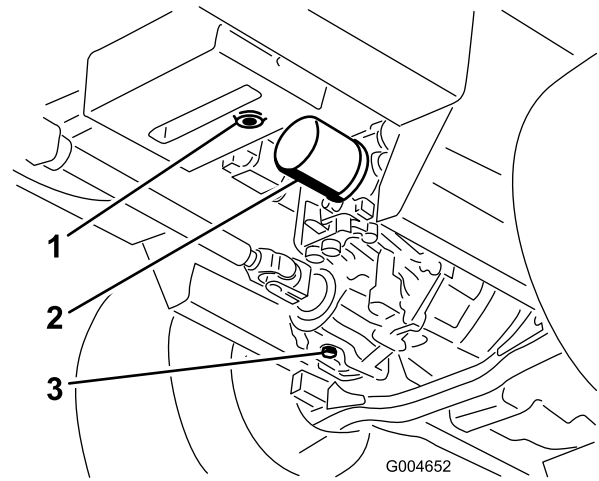

Figure 67
4. Clean the area around the hydraulic oil filter and remove it (Figure 67).
3. Place a large pan under the hydraulic reservoir and transmission case and remove the plugs, draining all of the hydraulic fluid (Figure 67).